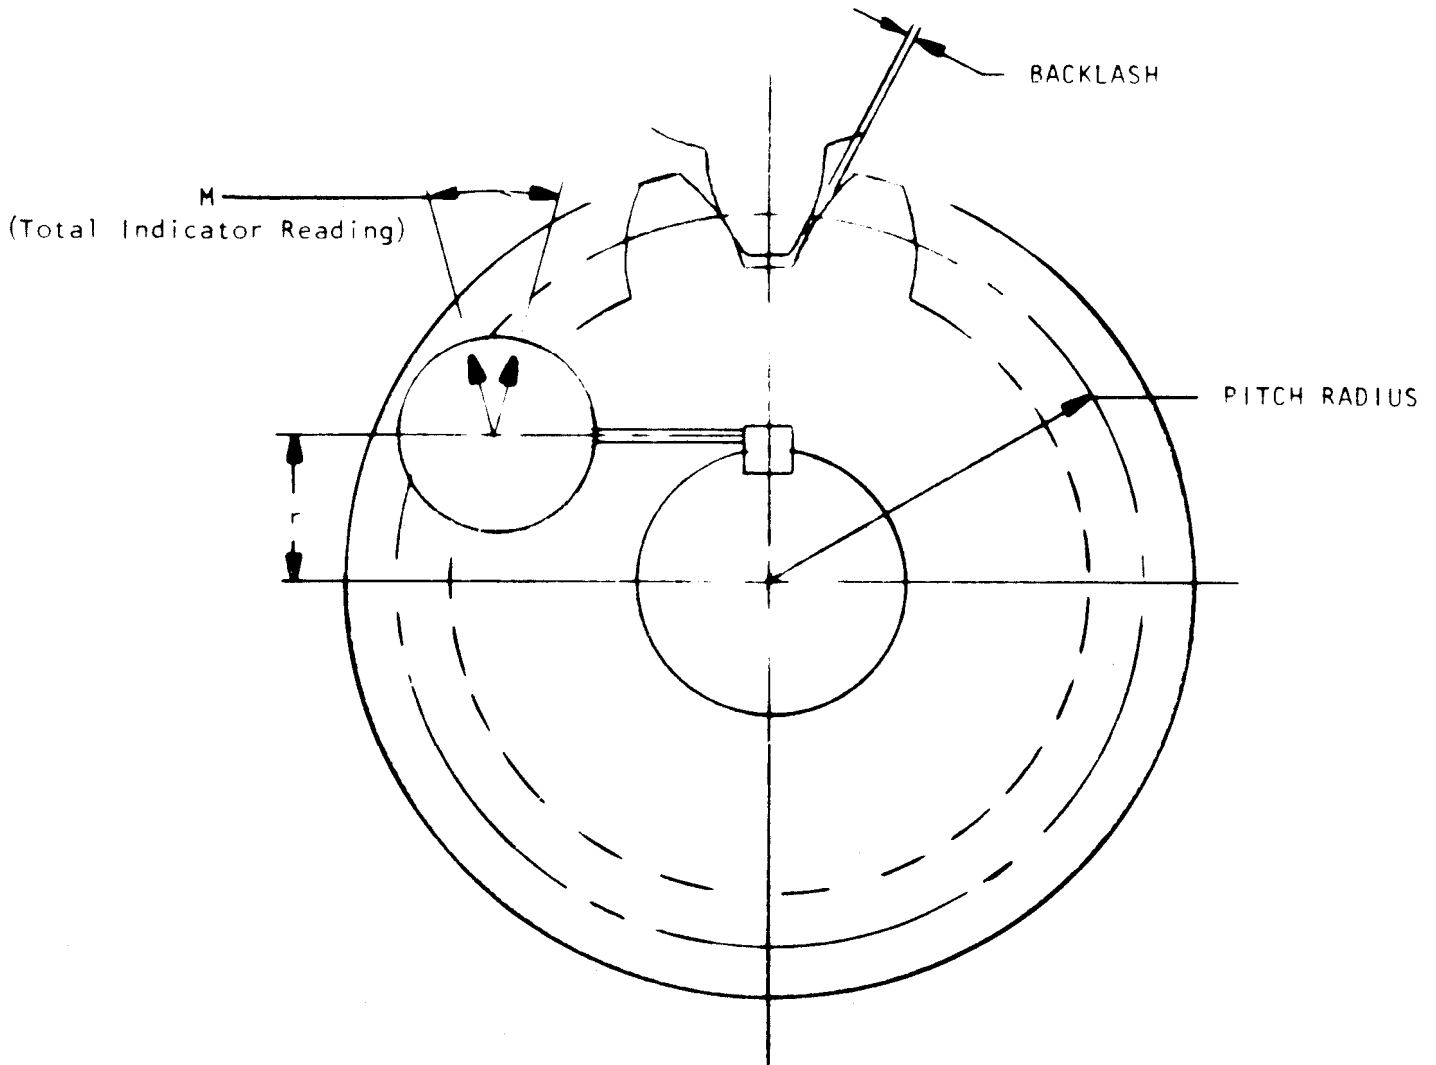

FIGURE 3
- 8.4. Measure the distance from the center of the pinion shaft to the point where the indicator contacts the key (see Fig. 3). This is the “r” value in the equation used in step 8.6. and will be used to obtain the backlash value.